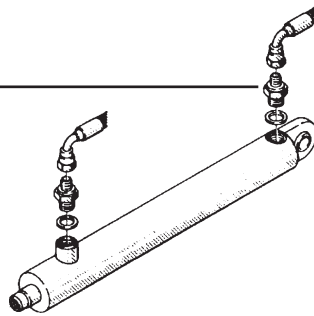

Fig.5
- 1b. HZ BOOM - Attach tilt cylinders to center frame using pins and cotter pins. Remove plugs from cylinder ports and manually extend cylinders to their full extension. Install o-ring washers and restrictor fittings in both ports on hydraulic cylinders. The restrictor with the small hole is fitted to the fixed (base) end of the hydraulic cylinder. (Refer to fig. 5)
8. Install o-ring washers and restrictor fittings in both ports of hydraulic fold cylinders. Restrictor with the small hole goes in the fixed (base) end of the hydraulic cylinder. (Refer to fig. 5)